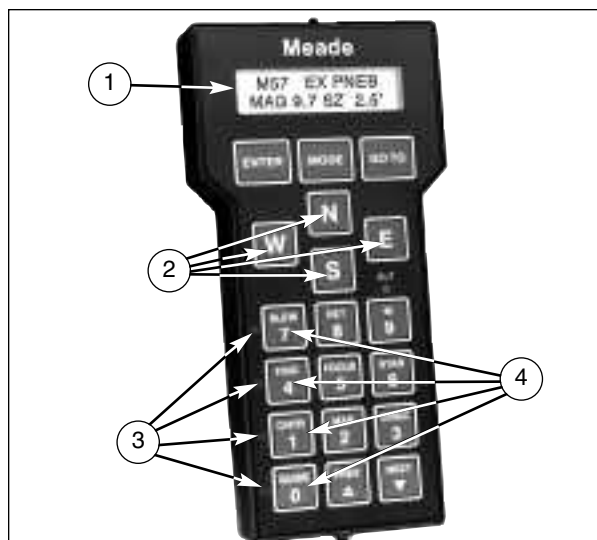

Fig. 6: #1697 Keypad Hand Controller. (1) Display; (2) Direction Keys; (3) Speed Indicator LEDs; (4) Speed Selection Keys.
2. Turn "on" the #1697 Control Box. The Keypad Display (1), Fig. 6, displays "MEADE" for several seconds as the micro-processor does a self-diagnostic test. When the self-diagnostic test is complete, the display shows "TELESCOPE" on the top line, and "OBJECT LIBRARY" on the lower line. The Speed Indicator LED (3), Fig. 6, next to the "SLEW" button is illuminated.
3. At this point, the #1697 Computer Drive System is ready to use. Select a speed at which to move the telescope by pressing the appropriate Speed Selection Key (4), Fig. 6. As a speed is selected, the red LED next to the selected speed lights up. Then press one of the four direction keys, (2), Fig. 6, to move the telescope in that direction at the selected speed.
4. With the CDS power turned on, the LXD mount can be moved in either of two ways: (1) By loosening the R.A. and Dec locks as described in the instruction manual supplied with your telescope; or (2) by using the N, E, W, or S keys (2), Fig. 6, on the Keypad.